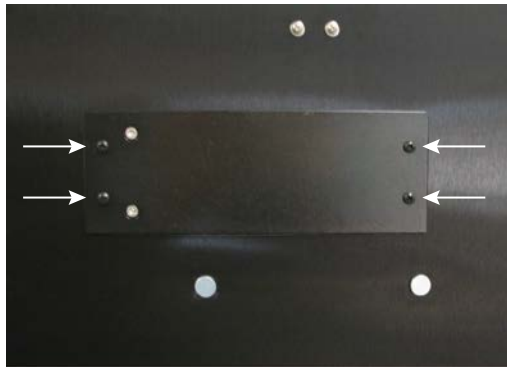

Figure 57. Removing the metal cover plate. Arrows indicate the four screws to remove.
4. Using the Phillips screwdriver provided with the instrument, remove the four screws from the metal plate cover exposing the interior (Figure 57).